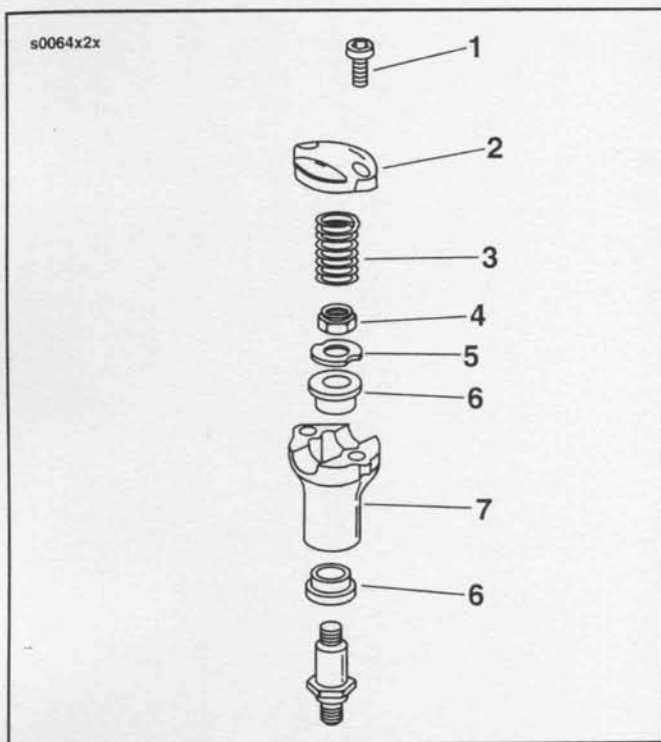

Figure 2-62. Handlebar Risers
1. See Figure 2-62. Remove handlebar risers socket head screws (1) and riser caps (2). Remove handlebars. One of the risers contains a ground spring, to provide an electrical ground for the front turn signals. Remove ground spring (3).
2. Remove risers lock-nuts (4) and washers (5). Discard lock nuts. Remove the risers (7). If necessary, remove the riser rubbers (6).
1. See Figure 2-62. If you removed the riser rubbers (6), lubricate the outside of the riser rubbers and install them in risers (7). Be sure the lip on the bottom rubber is fitted into the recess in the bottom of the riser.
2. Place the risers (7) in position over the rigid fork leg studs (8).